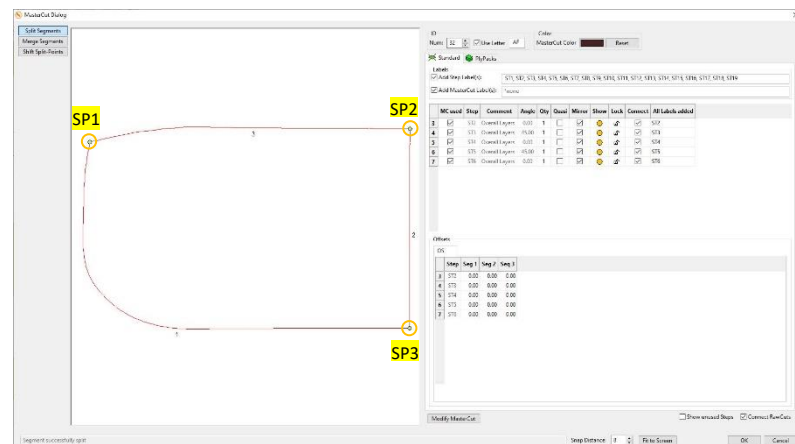

Figure 299
95. ...and for MasterCut AF and split the outer geometry as shown in Figure 299...